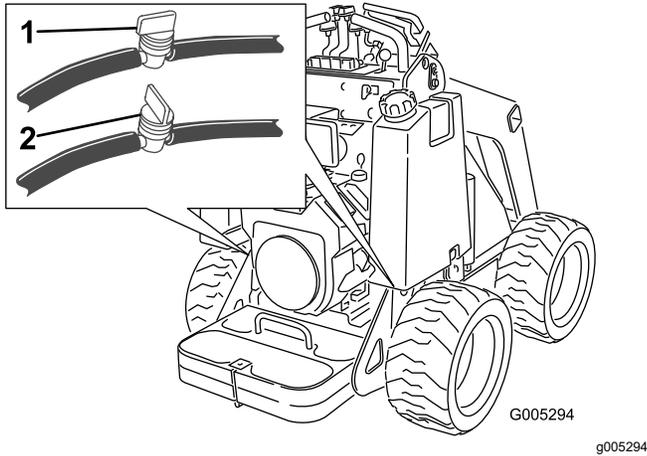

Figure 31
2. Shut off the fuel valve on the bottom of each fuel tank (Figure 31).
3. Shut off the fuel valve in the hose near the bottom of the fuel tank(s) as shown in Figure 31.
8. Open the fuel valve(s) in the hose(s) near the bottom of the fuel tank(s) as illustrated in Figure 31.